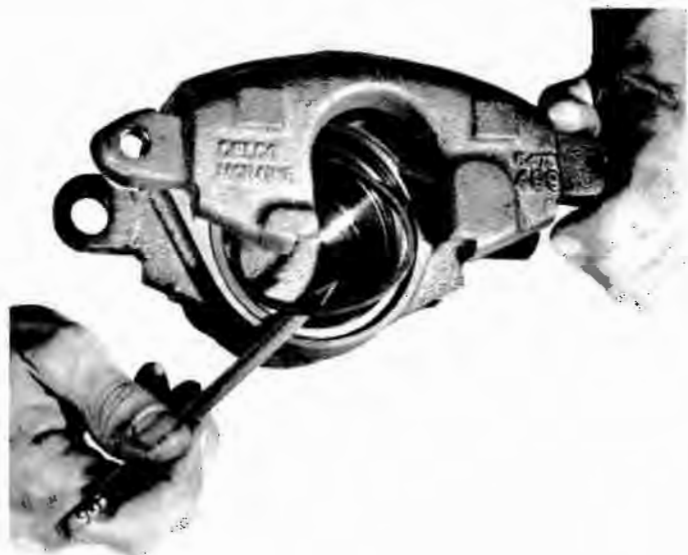

Fig. 9-46 Piston Seal Removal
(10) Remove piston seal from piston bore and discard seal. Use only non-scratching implements such as a pencil, wooden stick, or piece of plastic to remove seal (fig. 9-46). Do not use a metal tool or similar object to remove seal as bore may be scratched.
(11) Remove bleeder screw. Remove and discard rivets and rubber bushings from mounting ears.
(12) Clean all parts with clean brake fluid. Blow out all passages in caliper and bleeder valve. Use only dry